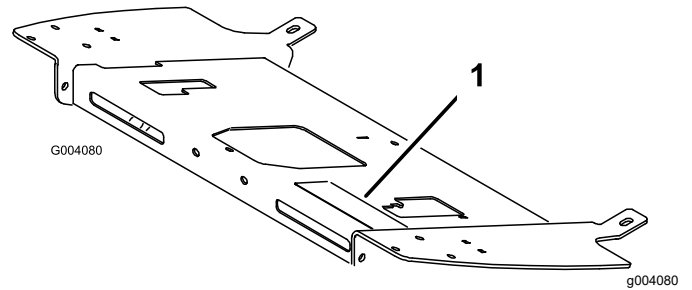

Figure 14
3. Affix the appropriate danger decal over the existing decal on the operator platform (Figure 14):